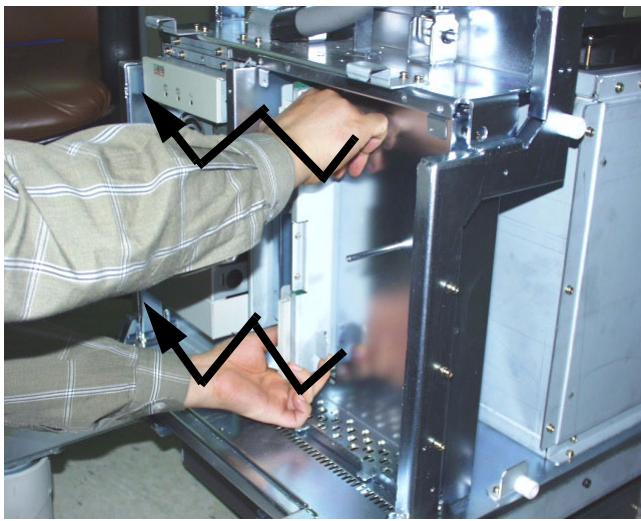

Figure 8-83 Pulling Out LMT Board
- 3.) Pull the LMT Board out. Refer to Figure 8-83.